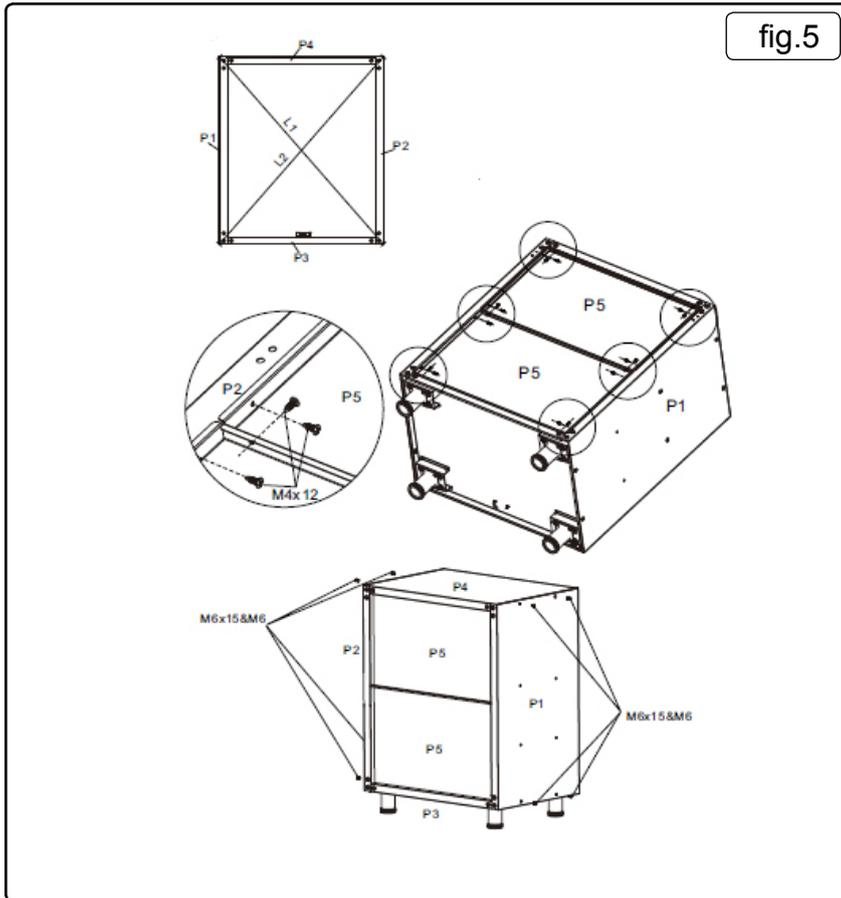

fig.5
- 5.6. Position back panels and fix in place as per fig.5.